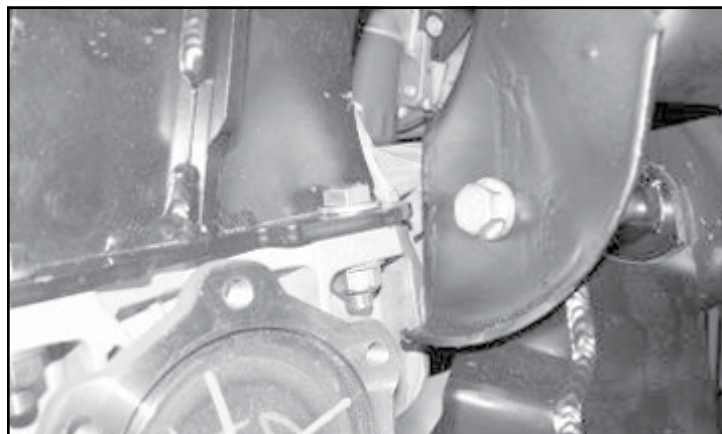

FIGURE 25 - STEP 20
20. Locate and install FT20611BK rear crossmember into the factory lower control arm pockets using the stock hardware and leave loose at this time. **(CHECK THE CLEARANCE OF THE DIFF TO CROSSMEMBER WHERE IT WAS SANDED DOWN IN STEP #17 FOR ADEQUATE CLEARANCE TO THE FRAME AND CROSSMEMBER).** SEE FIGURE 25